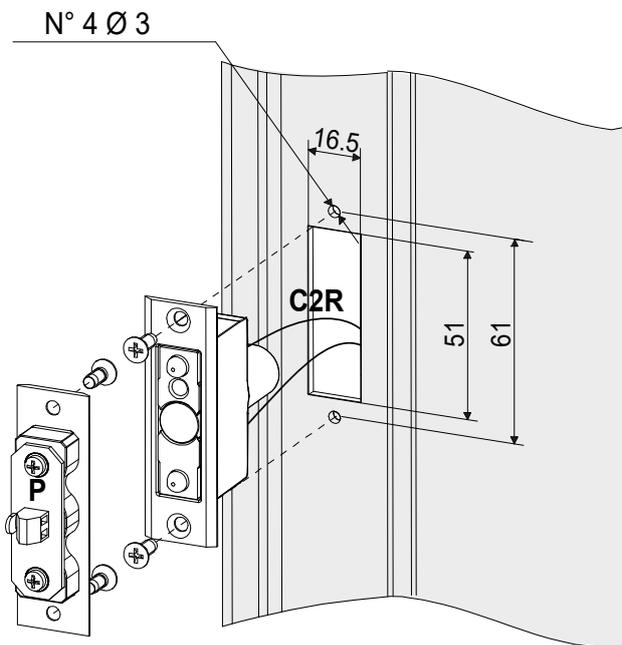

Fig. 1
1. Place the door side door status device in position, making sure the red cable C2R is at the top (Fig. 1).
2. Place the frame side door status device in position, making sure the letter P (positive pole) is at the top (Fig. 1).